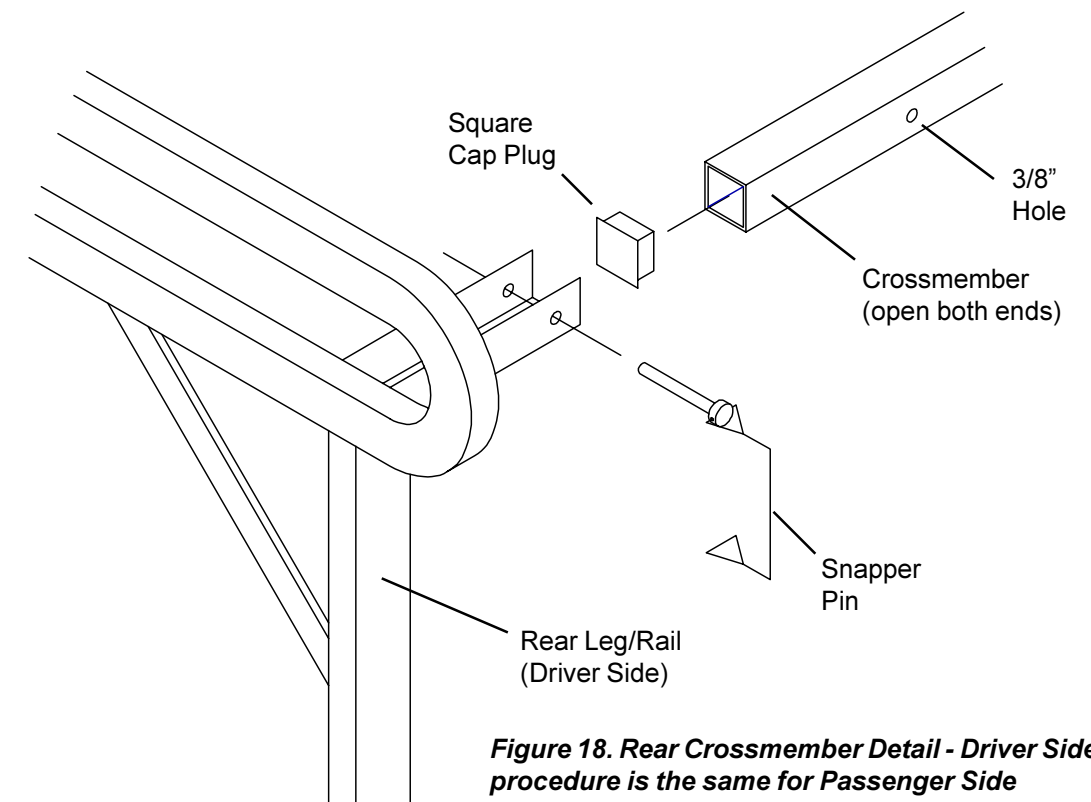

Figure 18. Rear Crossmember Detail - Driver Side only shown - procedure is the same for Passenger Side
8. Rear Crossmember - Place the Crossmember in the sockets, center it, then mark the socket holes. Remove the Crossmember and drill the marks with a 3/8" drill bit. Install the Black Plugs in the Crossmember, replace the Crossmember in the sockets and install the Snapper Pins (see Figure 18.).